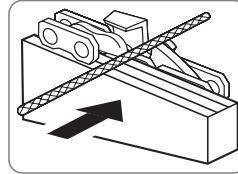

Fig. 8
4. Always file from the inside out, guiding the file from the inside of the tooth outward and lifting the file on the return stroke (fig. 8).